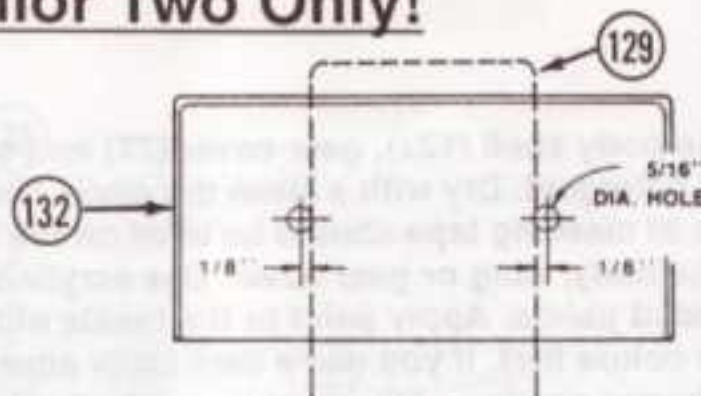

FIG. 51
12. Place the U-shaped wing wire (129) on the bottom side of the wing (132) in the position you wish it mounted. Fig. 51
13. Drill two 5/16" dia. holes as shown in Fig. 51.